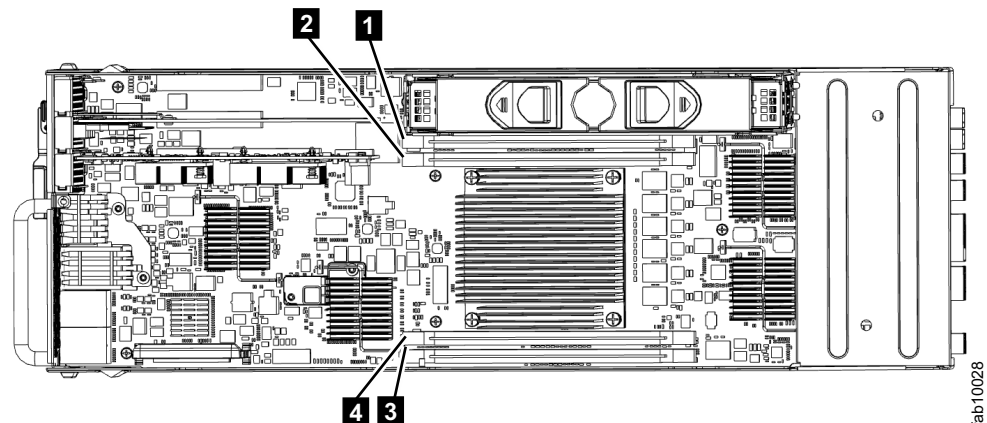

Figure 114. Installing a Storwize V7000 2076-524 node canister memory module
3. Locate the DIMM slot with the faulty DIMM. Slot 1 is next to the battery area. Slot 2 is next to the processor. The slots are marked 1, 2, 4, 3 as shown in Figure 114.
7. Gently place the DIMM in the slot, ensuring that the notches in the DIMM align with the shape of the slot, as shown in Figure 114.